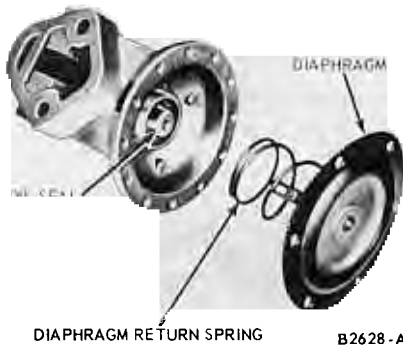

FIG. 7—Diaphragm Installation
6. Position the fuel pump diaphragm and spring assembly into the pump body as shown in Fig. 7.